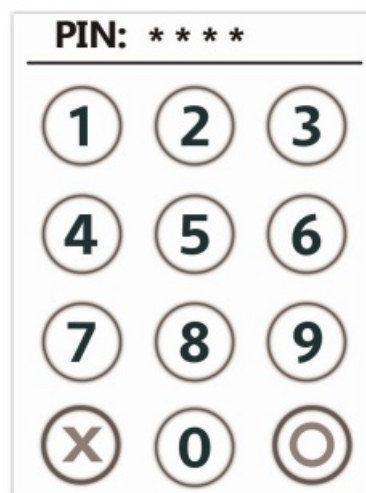

Figure 6
After inserting the chip card, Press the numeric key as below keypad (Figure 6) to enter the desirable numbers on the touch panel. Press Cancel (X) key to terminate any current function and press the Enter (O) key to confirm a value or an option.